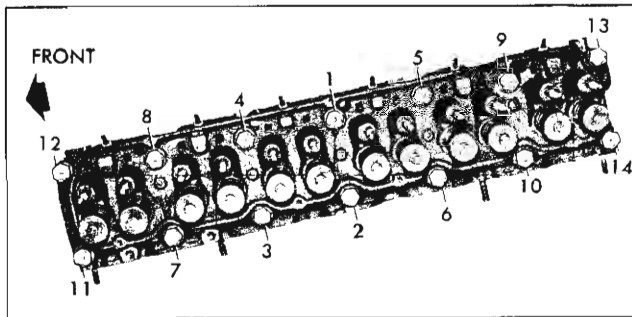

Fig. 24—Cylinder Head Torque Sequence
4. Tighten the cylinder head a little at a time with a torque wrench in the sequence shown in Figure 24. The final torque should be 90 to 95 ft. lbs.